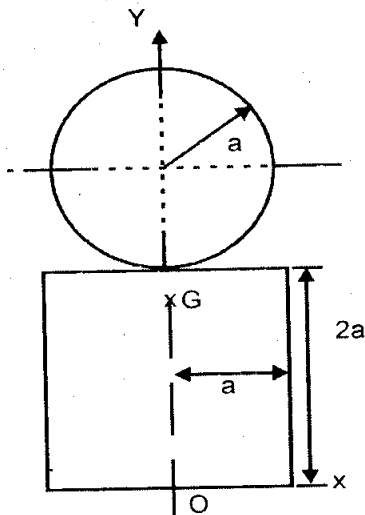

Figure 4
- (b) Determine the C.G. of a body formed by a solid sphere placed over a solid cylinder of the same radius ' a ' and height ' $2a$ ' as shown in Fig. 4. Take $a = 20\text{cm}$. [7]